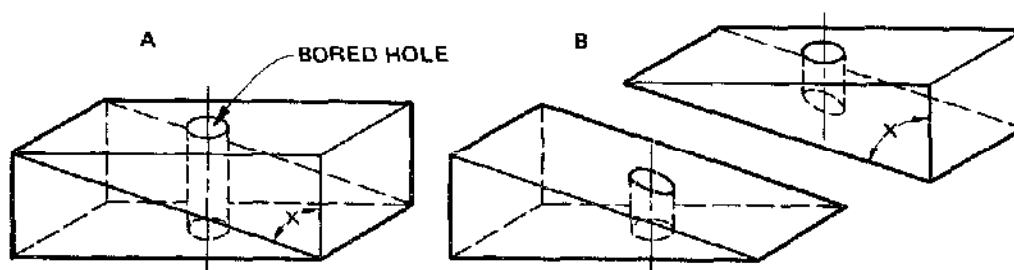

Fig. 10-37 Guide for boring.
- 1. Bore a vertical hole through a block of wood using the same size auger bit that will be used in making the finished hole. See A, figure 10-37.
- 2. Lay out angle X (A, figure 10-37), which is the guide angle of the hole, and saw off the bottom of the block.